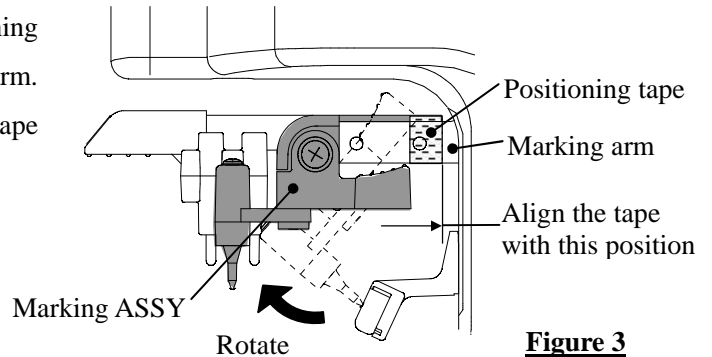

Figure 3
- 1) Rotate the marking ASSY. Affix the positioning tape for the marking ASSY on the marking arm. Refer to Figure 3 on the right for the tape position to be affixed.